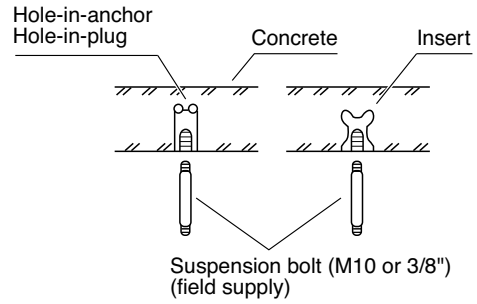

Fig. 3-32
- (1) Fix the suspension bolts securely in the ceiling using the method shown in the diagrams (Figs. 3-32 and 3-33), by attaching them to the ceiling support structure, or by any other method that ensures that the unit will be securely and safely suspended.